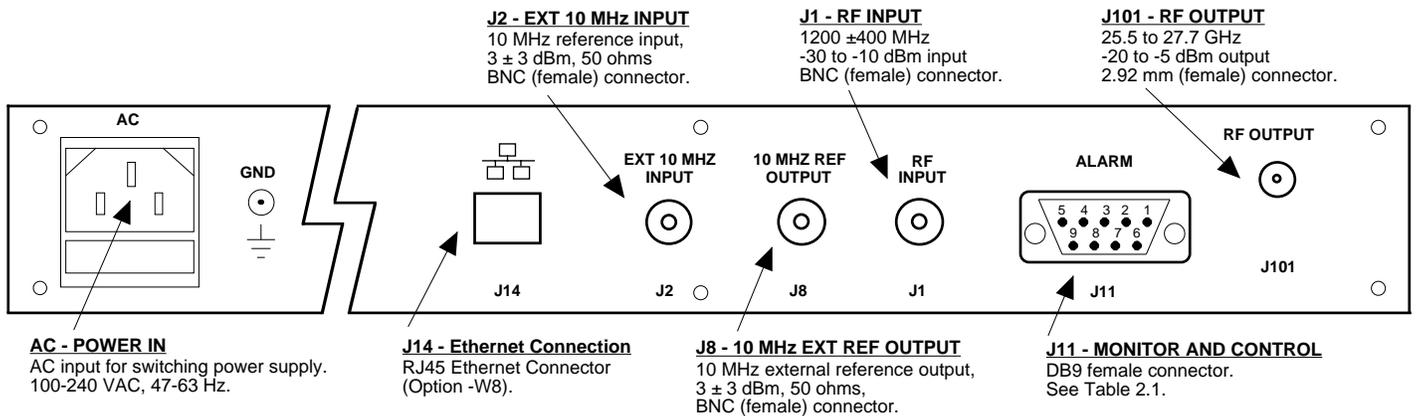

FIGURE 2.1 3115-277#-1200 Rear Panel I/O's
Figure 2.1 shows the input and output connectors on the rear panel.
1. Connect a -30 dBm to -10 dBm signal to RF IN, J1 (Figure 2.1).